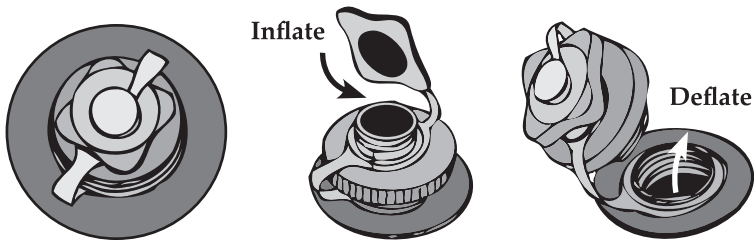

Figure 2. Inflate/ Deflate Boston Valve
3. Locate chamber 3 “floor.” Make sure valve body is screwed in tightly. Remove small cap (See Figure 2) and use appropriate pump nozzle. Inflate chambers until firm (**1.0 psi ONLY**). Do not over inflate!
3. Unscrew valve body to chamber 3 (See Figure 2).